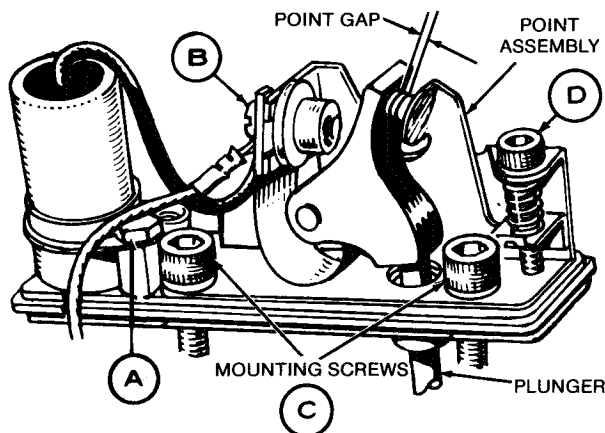

FIGURE 28. TIMING AND POINT GAP ADJUSTMENT
3. Remove the condenser (screw A) and detach the condenser lead and coil lead (screw B). See Figure 28.
6. Use an allen head wrench to adjust set screw D to obtain the gap setting specified in the Specifications section. Measure the point gap with a flat thickness gauge (See Figure 28).